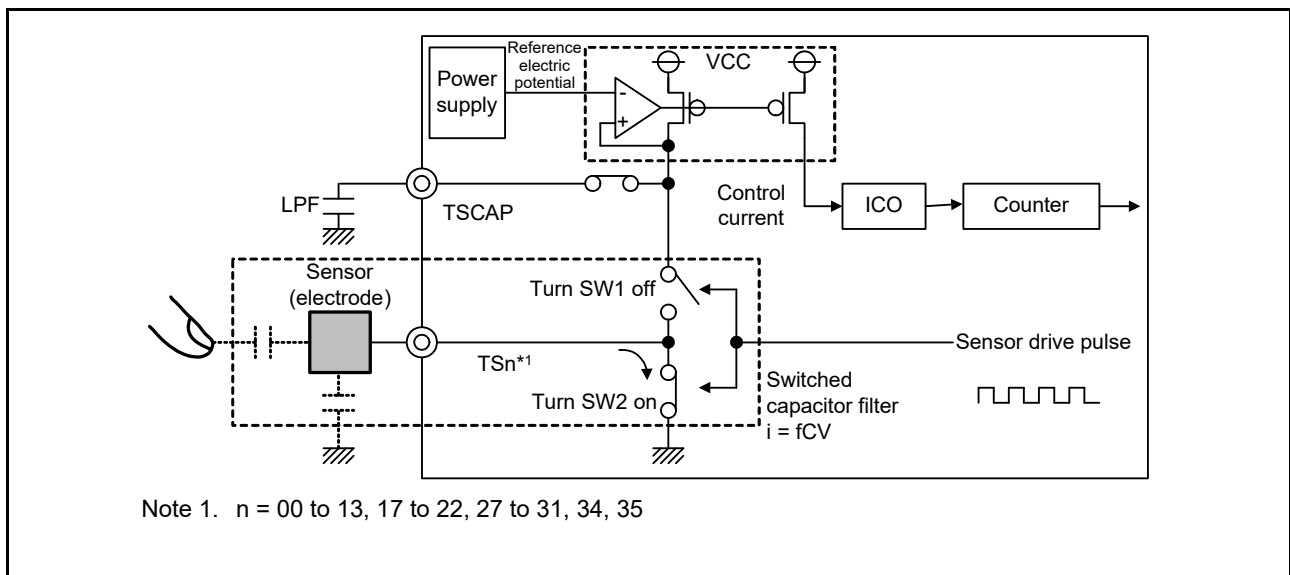

Figure 41.6 Discharging operation
2. The charged capacitance is discharged by turning SW1 off and SW2 on (Figure 41.6).